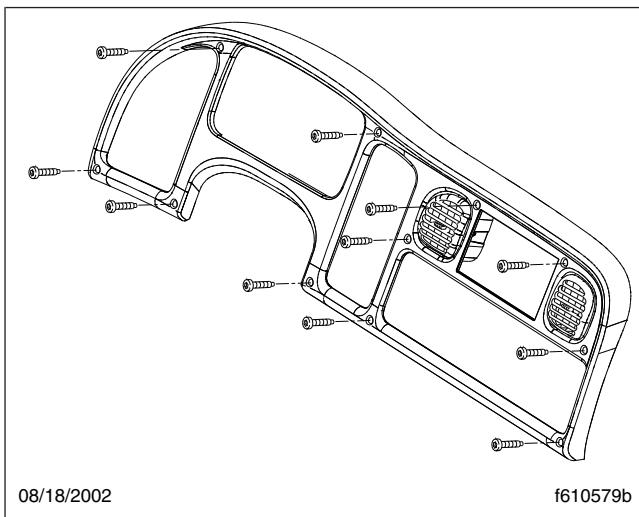

Fig. 3, Dash Trim Piece
7. Remove the dash trim piece by removing the eleven screws that secure it. All fasteners for this procedure are 10–16 Torx® capscrews. See **Fig. 3**.